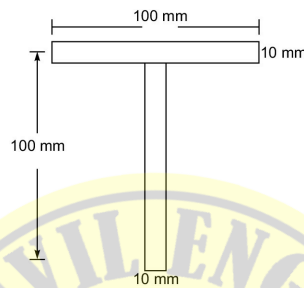

Fig. Q. 72
72. For the section shown in Fig. Q. 72, the plastic neutral axis is